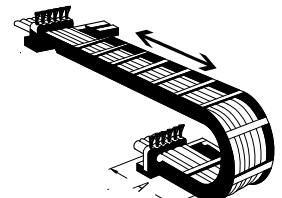

Fig. 4
9. With long chain link trunking in which the upper drum lies on the lower drum, fasten the cables only at the driver end (see Fig. 4).